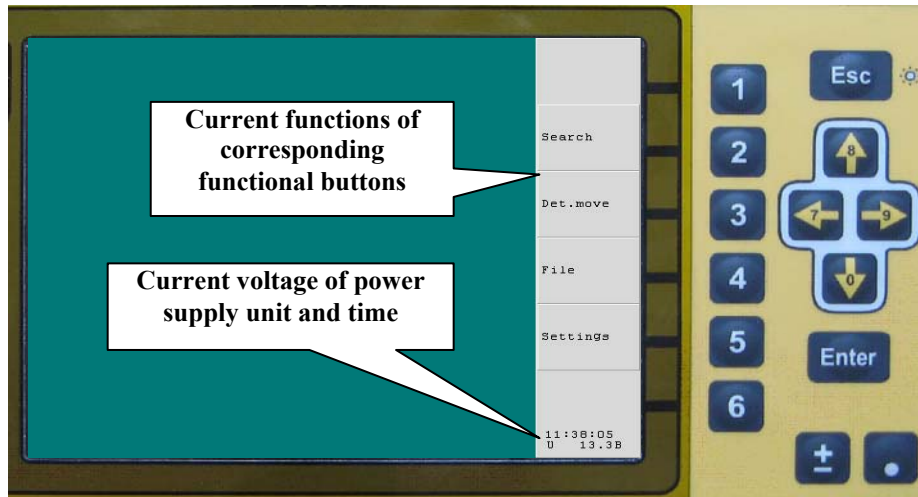

Figure 3.3.1. A device operation mode selection menu
1. Press the key on BP case for switching on the power supply of the device. At that time the Led indicator is to flash at the BP case and after several seconds of automatically SK testing and short-time message «Ready», on the BUOI screen is to display operation mode select menu of device (figure 3.3.1) current voltage of power supply unit and time. The points of menu are to choose by pressing of functional buttons on the opposite corresponding name functions in the dark rectangulars in the right part of screen BUOI.
Pressing a “4” functional key in the menu of device operation mode selection («File», figure 3.3.1) select an operation mode “File.”
Press a “4” functional key in a menu of a device operation mode (“Settings”, figure 3.3.1) select an operation mode “Settings”.